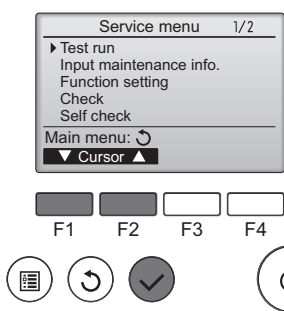

Fig. 6-3
- ③ Select "Test run" with the [F1] or [F2] button, and press the [SELECT] button. (Fig. 6-3)